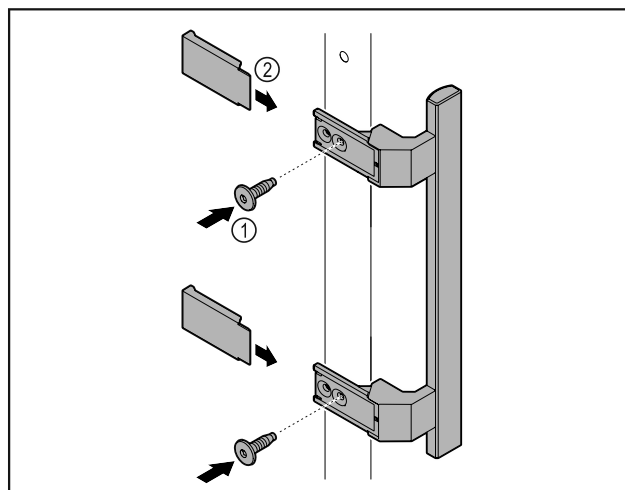

Fig. 5
- Attach handle from accessory kit to the door using the screws supplied Fig. 5 (1).
- Put on cover Fig. 5 (2).